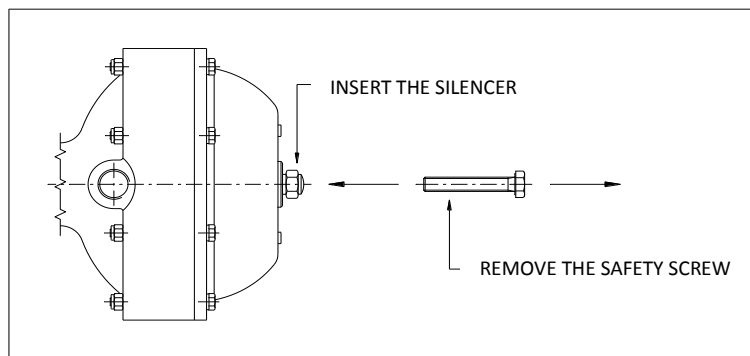

Figure 3
6. Power up the thruster and substitute the safety screw TE with the silencer C61126 (Figure 3).